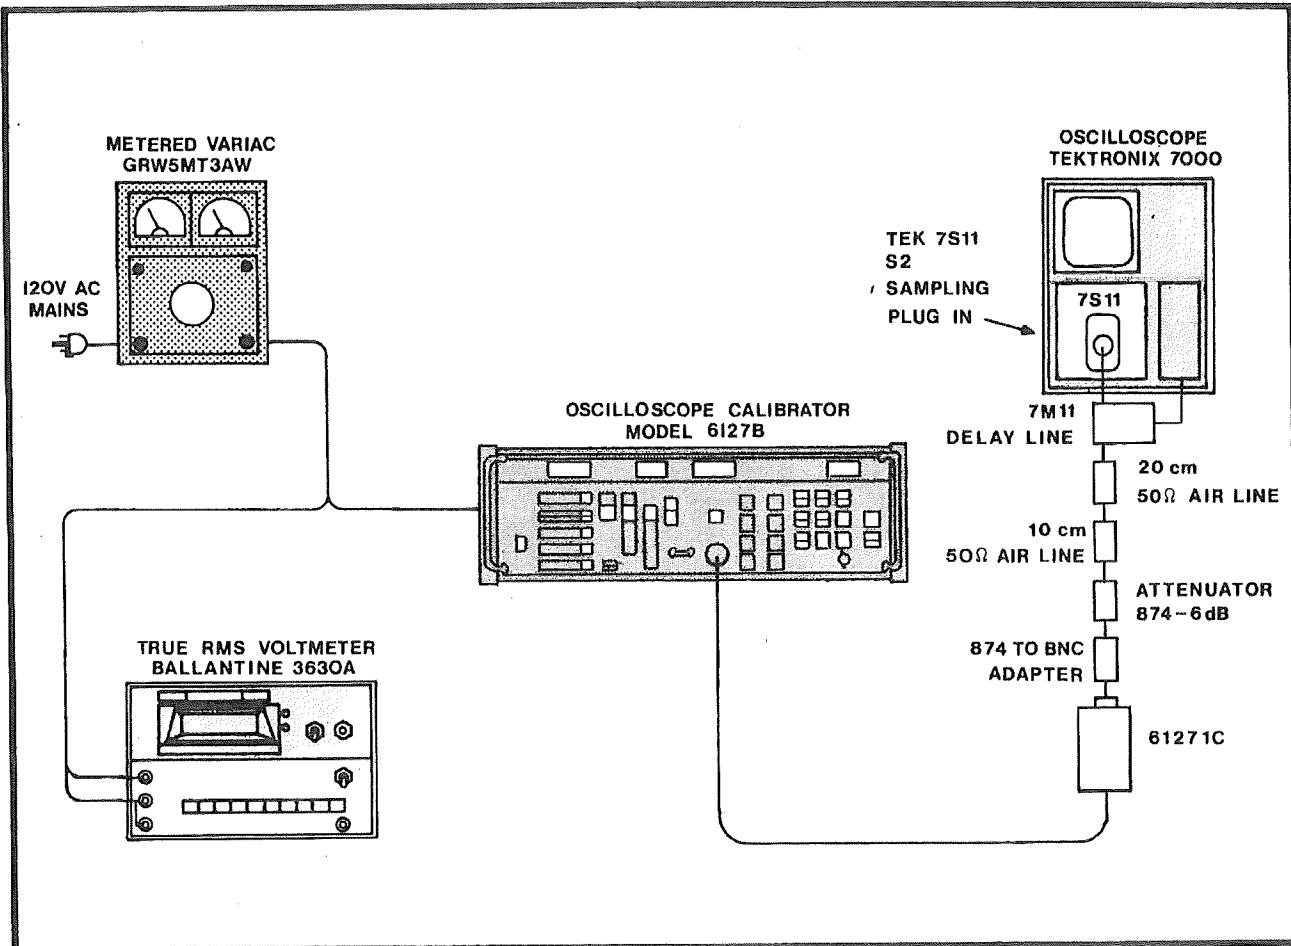

Figure 5-5. FAST RISE PULSE Output Check, Test Set-Up
a. Connect the equipment as shown in figure 5-5. Connect the 61271C Head to the 1 GHz sampling oscilloscope through a BNC to 874 adapter, a 6 dB (X2) 50 ohm attenuator pad, 30cm of GR874 50 ohm air line (10 cm and 20 cm length) and an 874 to BNC adapter. The air lines and 6 dB attenuator are required to minimize the effects of termination mismatch aberrations at the upper corner and along the leading edge.